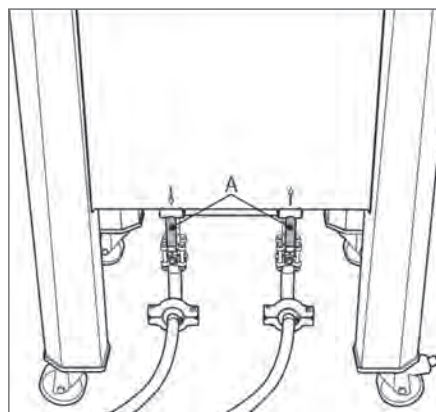

Figure 52 The PED version of the Palletank® Jacketed for LevMixer® is fitted with manual $\frac{3}{4}$ " Ball valve and $\frac{3}{4}$ " Tri-Clamp connection
- Connect the inlet and outlet of the Palletank® heat transfer fluid circuit to the heating | cooling system. The inlet and outlet of the heat transfer fluid circuit are located on the back of the Palletank® (see Fig. 52 and 53).
- Open the two manual ball valves if required (see Fig. 52 | A) and start filling the heat transfer fluid into the dimple jacket circuit according to your internal procedure.